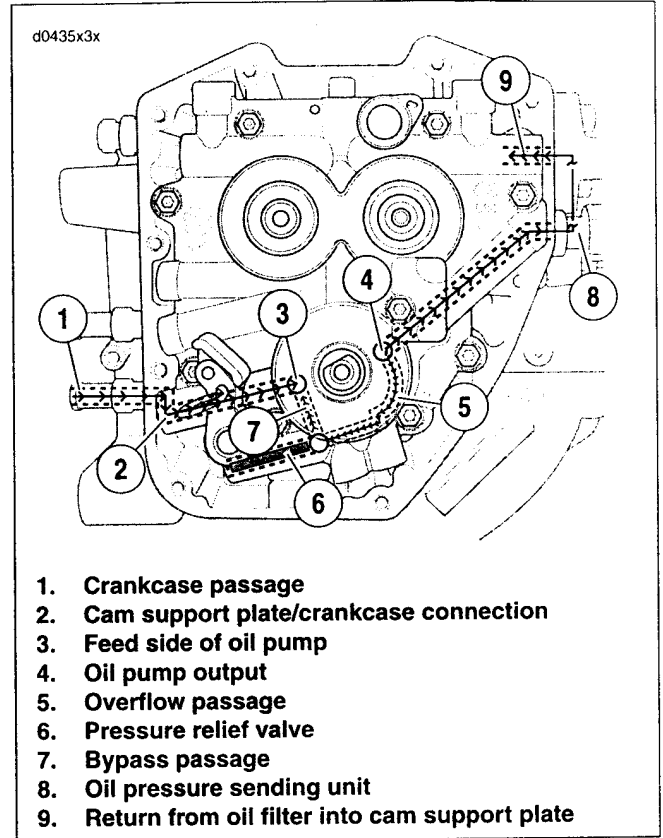

Figure 3-2. Cam Support Plate Oil Flow
See Figure 3-2. Running through a passageway in the crankcase (1), oil exits a hole in the crankcase flange and enters a hole on the inboard side of the cam support plate (2). Passing through a channel in the cam support plate, the oil enters the feed side of the oil pump (3). See 3.5 OIL PUMP OPERATION. The feed gerotors of the pump direct the flow up a second channel in the cam support plate.
After circulating through the oil filter (3), the flow of oil is directed back into the crankcase through the upper hole in the oil filter mount (2). See Figure 3-2. Exiting a passageway in the crankcase through a hole in the crankcase flange, the flow of oil reenters the cam support plate (9).